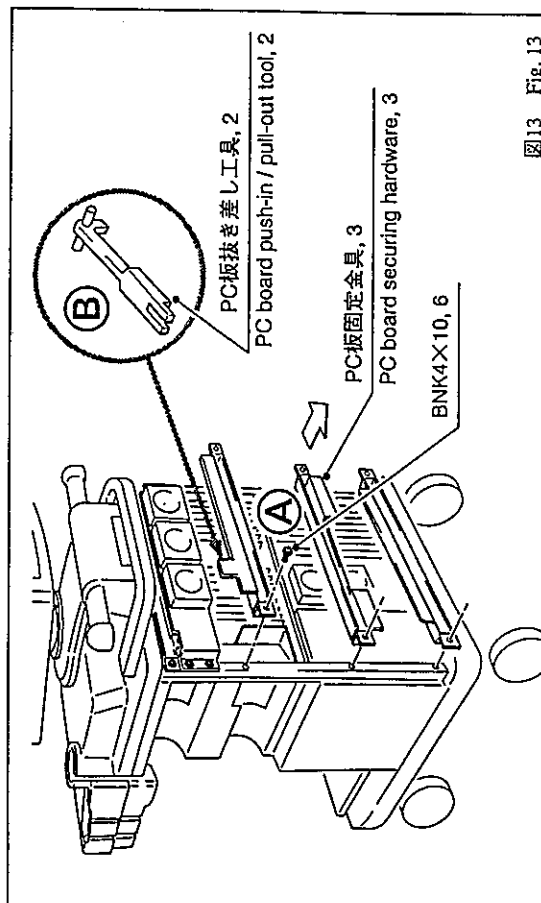

図13 Fig. 13
- (1) PC番固定金具3本を、ねじ各2本を外して取り外す。(図13 ㊸)
- (2) PC板抜き差し工具2個を、PC板固定金具の図の位置裏側のクランプより取り外す。(図13 ㊹)
- (1) Unfasten 2 screws and remove 3 pieces of PC board securing hardware. (㊸ in Fig. 13)
- (2) Remove 2 pieces of PC board push-in / pull-out tool from clamp on the back of PC board securing hardware. (㊹ in Fig. 13)